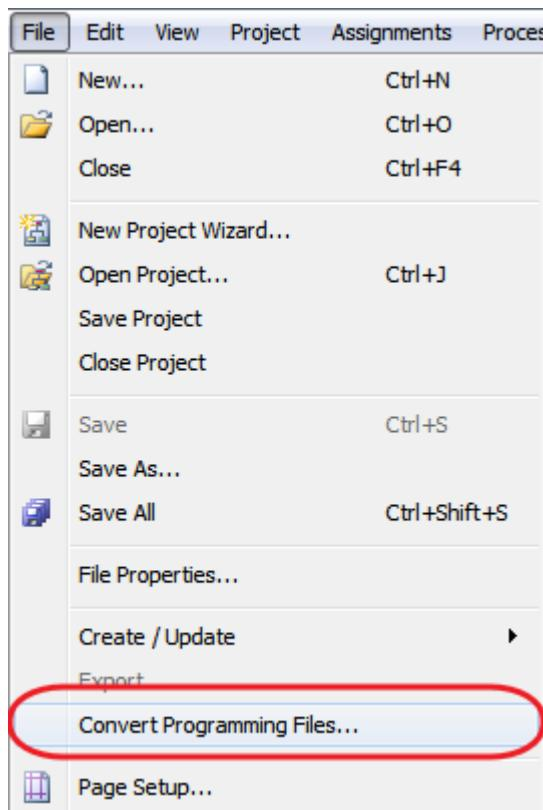

Figure 8-2 File menu of Quartus II
1. Choose **Convert Programming Files** from the File menu of Quartus II, as shown in Figure 8-2.